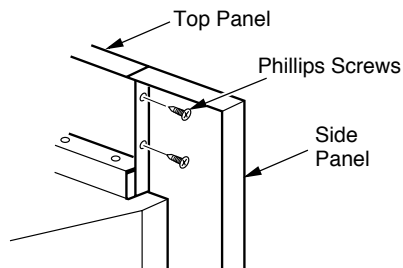

Figure 9 - Attaching Side Panels to Top Panel
- Align screw holes in side panels with holes in top panel (see Figure 9). Insert and tighten #10 Phillips screws.